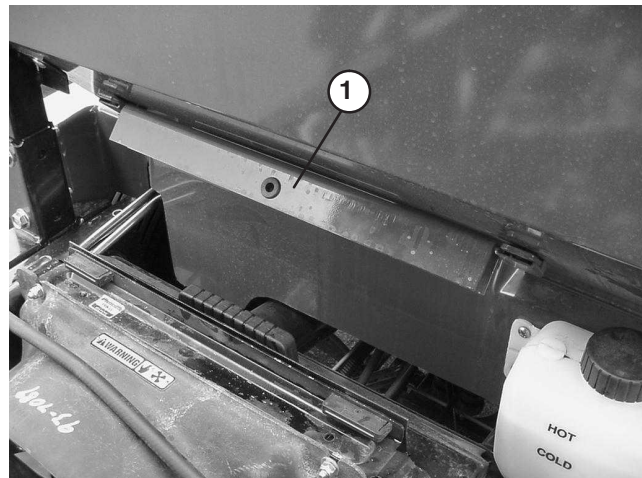

Figure 29
2. Remove bed support from storage brackets on back of ROPS panel (Fig. 29).